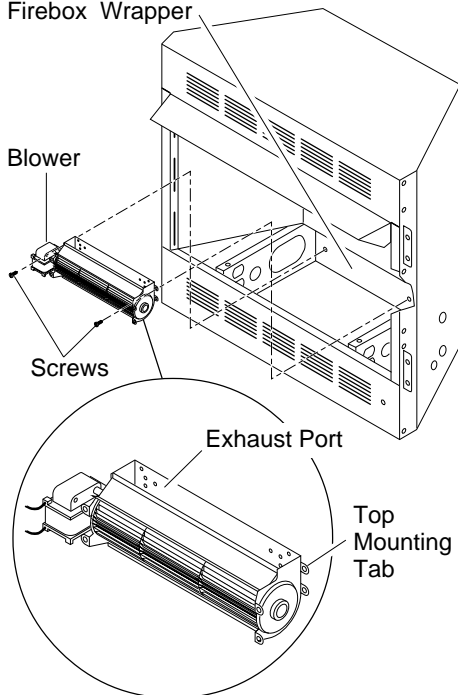

Figure 16 - Mounting Blower to Firebox
- Place the blower against the lower rear wall of the firebox outer wrapper with the exhaust port directed upward. Align the holes in top mounting tabs of blower with holes in wall of wrapper (see Figure 16). Using 2 screws provided, mount blower and tighten screws securely.